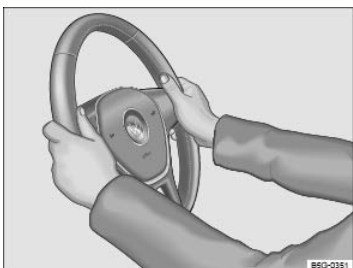

Fig. 44 Steering wheel: 9 o'clock and 3 o'clock positions.
- Adjust the steering wheel so that it can be held with hands at the 9 o'clock and 3 o'clock positions on the outside of the steering wheel rim and with the arms slightly bent at the elbow → Fig. 44.
- Always hold the steering wheel on the outside of the steering wheel rim with your hands at the 9 o'clock and 3 o'clock positions $\Rightarrow$ Fig. 44 to help reduce the risk of serious personal injury if the driver's airbag inflates.